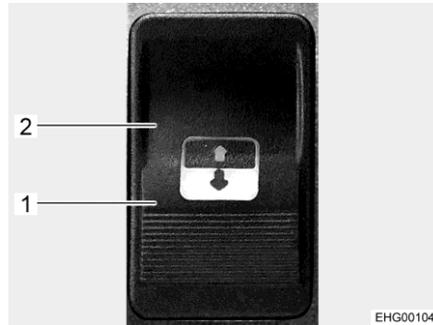

Fig. 127 Operating button
The operating button (Fig. 127) is installed on the vehicle's ceiling, next to the sunroof
- Press and hold the operating button on the side of the opening symbol (Fig. 127,1) until the sunroof has reached the desired position.
- Press the operating button on the side of the closing symbol (Fig. 127,2).
- Press and hold the operating button on the side of the closing symbol (Fig. 127,2) until the sunroof has been closed as far as possible.